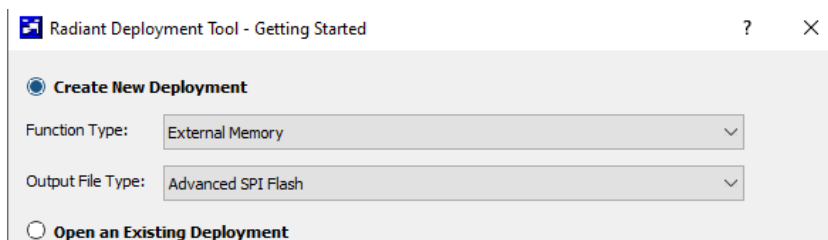

Figure 8.63. Options for Creating New Deployment
5. Apply the settings shown in Figure 8.63 and click **OK**.